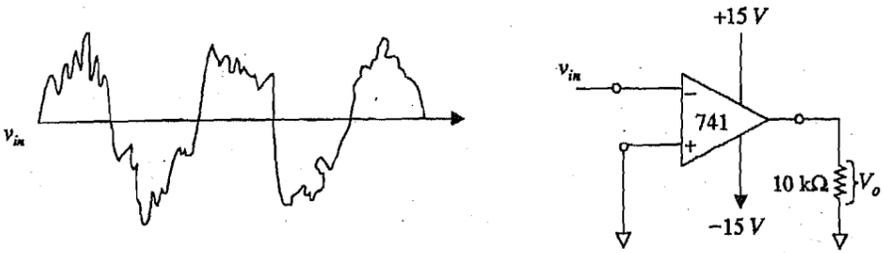

Fig.7.17
- 4) Trace the output waveform of the circuit given in Fig.7.17.